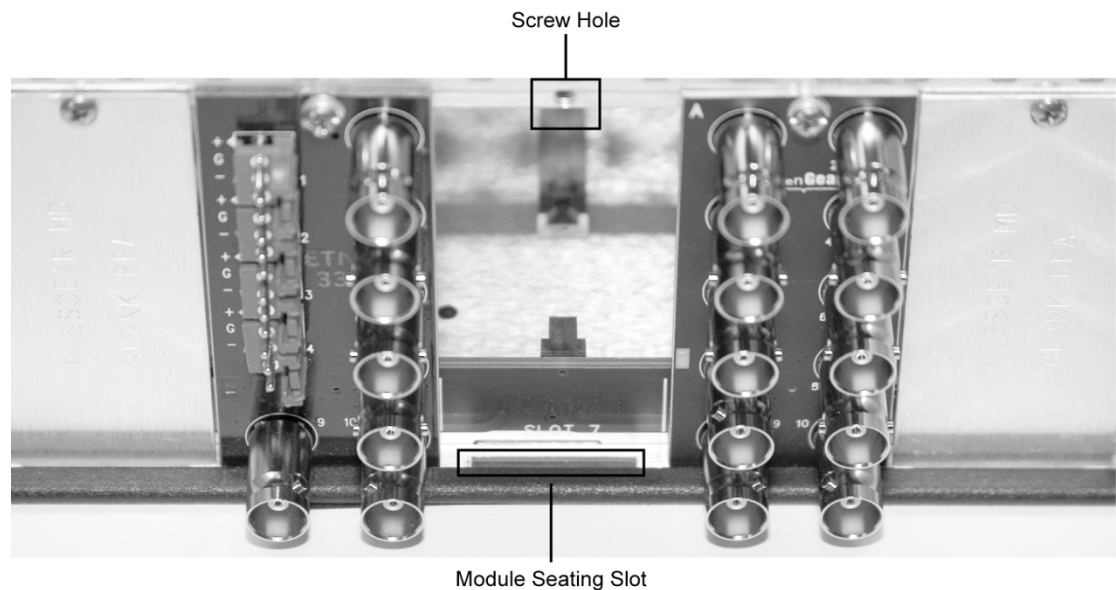

Figure 2.1 Rear Module Installation
3. Install the bottom of the Rear Module in the Module Seating Slot at the base of the frame’s back plane. (**Figure 2.1**)